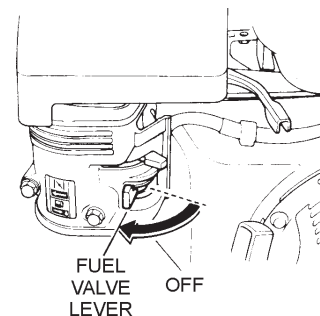

Figure 19. Fuel Valve Lever (OFF)
- Place the **fuel shut-off lever** (Figure 19) in the "OFF" position.